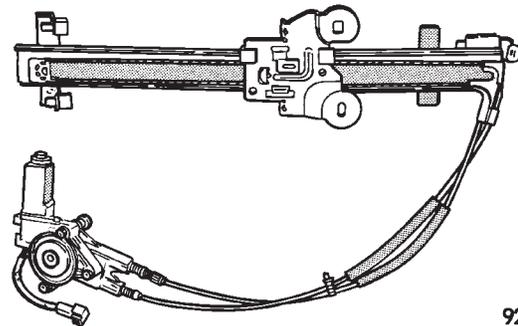

Fig. 15 Cable and Housing/Motor
- (1) Remove front door trim panel. Refer to group 23, Body.
- (2) Disconnect window lift plate from glass (Fig. 15).